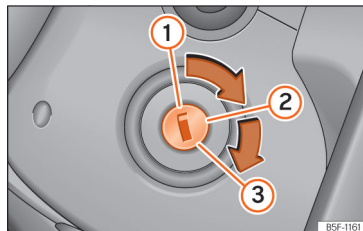

Fig. 82 Ignition lock
- Turn the key to position **»» Fig. 82 ②**.
- Keep turning the key to position **»» Fig. 82 ③** without pressing the accelerator.
- Once the engine starts, release the key. When it is released, the key returns to position **②**.
- *Vehicles with ignition locks:* Turn the key to position >>> Fig. 82 .
- *Vehicles with start buttons:* Briefly press the start button >>> Fig. 82.